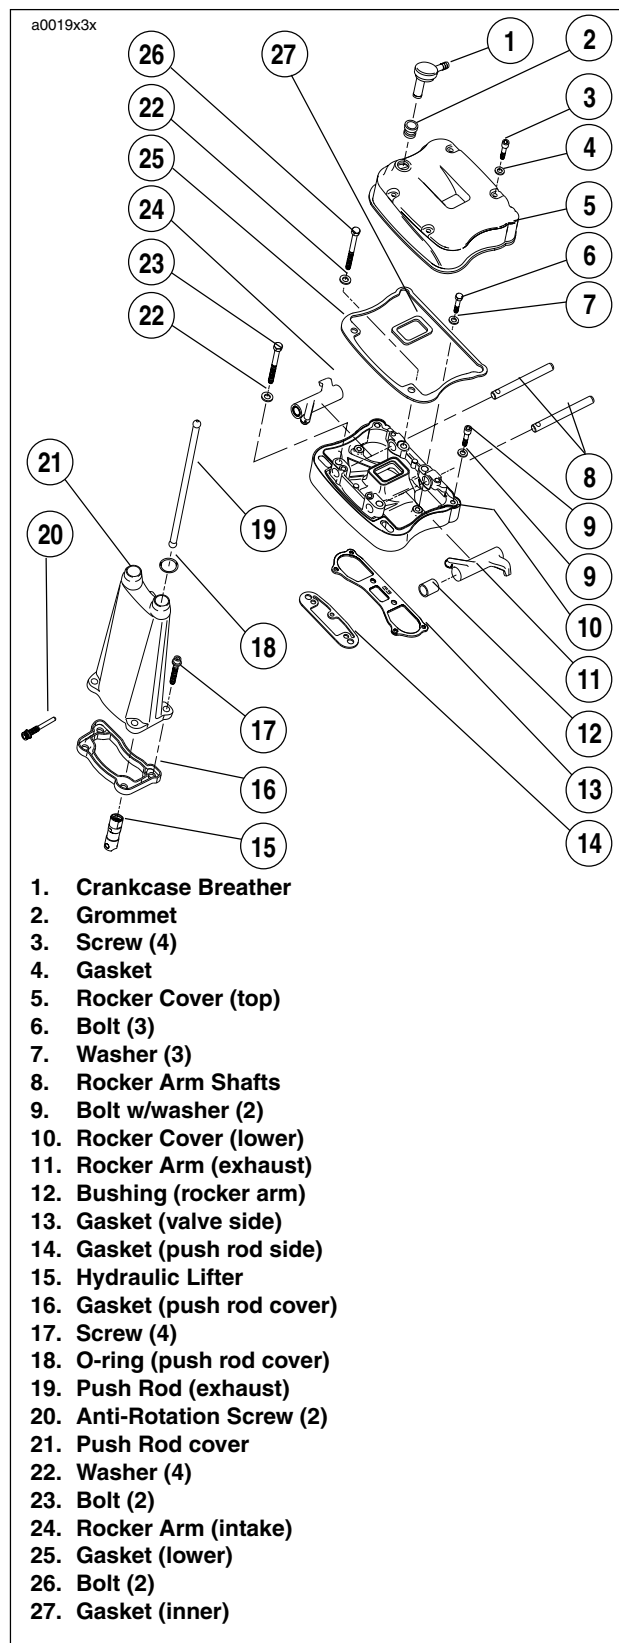

Figure 3-43. Rocker Arm Cover
1. See Figure 3-43. Remove screws with washers and fiber seals. Discard fiber seals.
8. See Figure 3-43. Remove lower rocker cover.
11. See Figure 3-43. Remove rocker arms; **mark them for reassembly** in their original locations.
17. See Figure 3-43. Remove push rod cover, gasket and valve tappets.